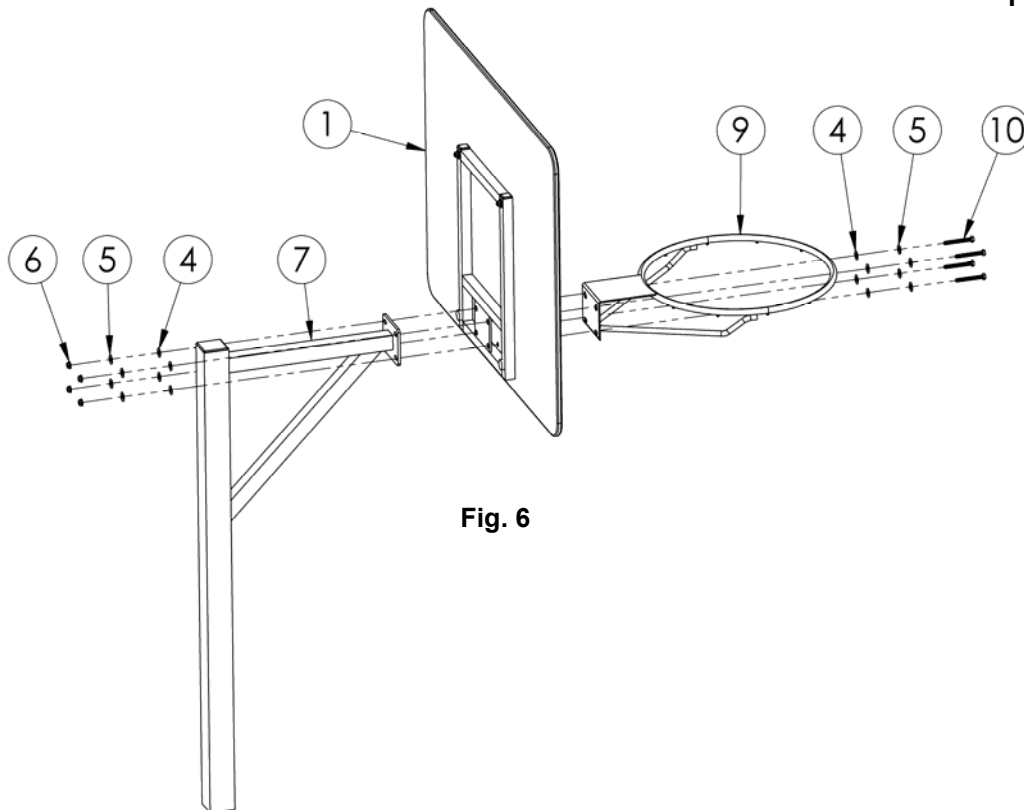

Fig. 6
2. Place the four bolts with hardware through the Rim (9): 5/16-18 X 2 3/4 HH TAP BOLT 316SS (10), 3/8" Flat Washer (5), and 3/8" Nylon Washer (4). Align the bolts and rim with the holes in the Acrylic Backboard (1). Next, continue the bolts through the mounting plate on the Vertical Posts (7), and tighten using the hardware shown: 3/8" Nylon Washer (4), 3/8" Flat Washer (5), and 5/16"-18 Flanged Nut (6). See **FIGURE 6**. Do not fully tighten the hardware. **Note: Use Anti-Seize (included) on all hardware pieces to prevent galling of the stainless steel.**